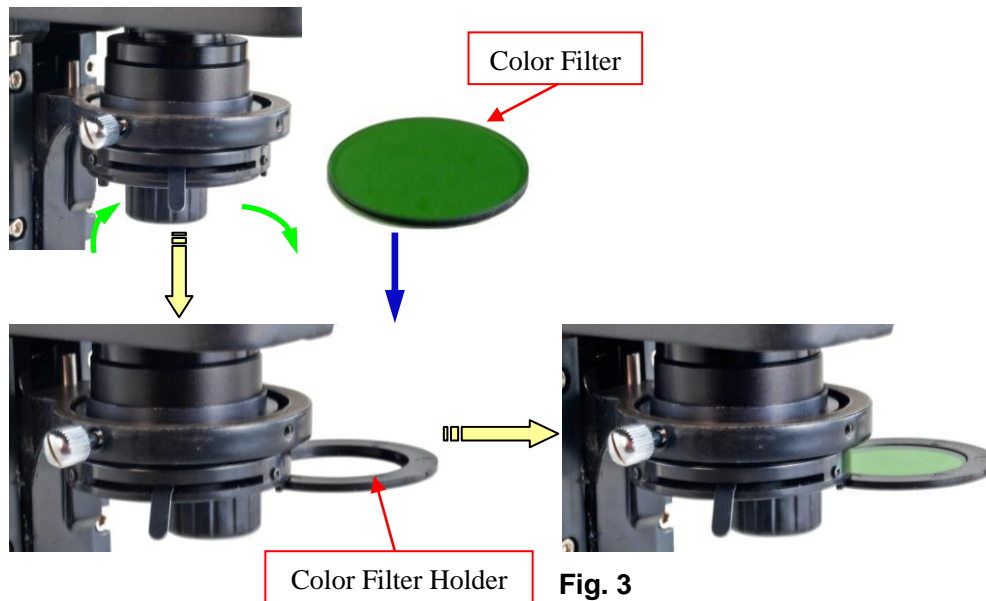

Fig. 3
- 2) Insert the filter into the holder as shown in **Fig. 3**, swing the holder in.